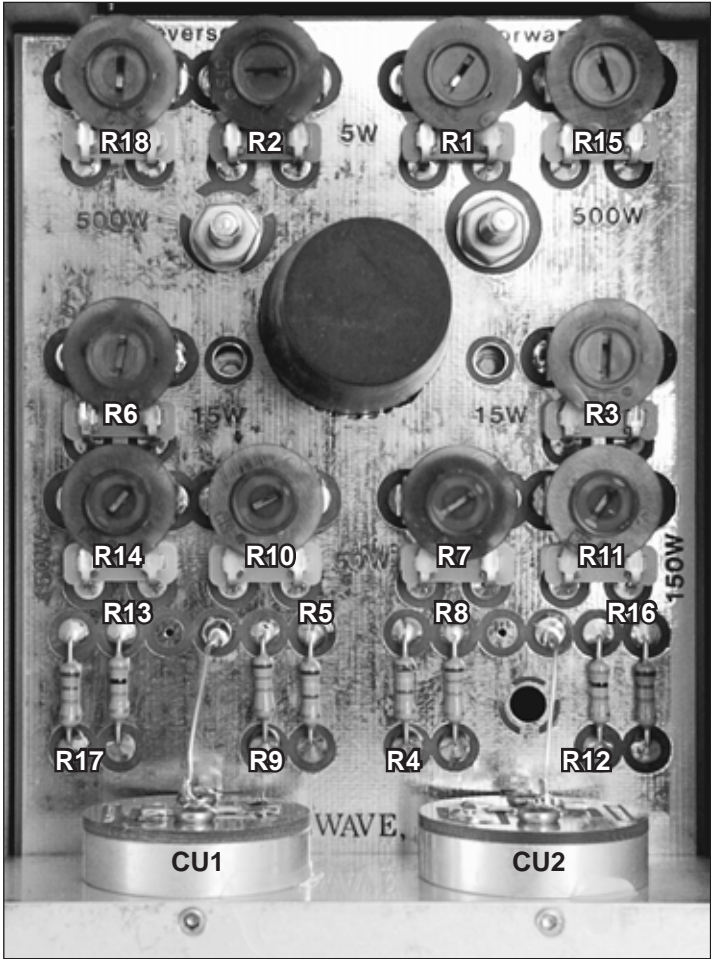
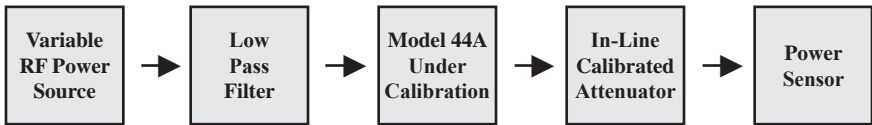

Figure 6-1: Adjustment Potentiometers and Parts Location
Figure 6-2: Calibration / Adjustment Equipment Setup
6.06 Remove the four bumper screws from the rear panel. Remove the rear panel. Figure 6-1 illustrates the adjustment locations. Refer to Figure 6-2, Equipment Setup. Perform the calibration / adjustment for Forward and Reverse direction as follows: